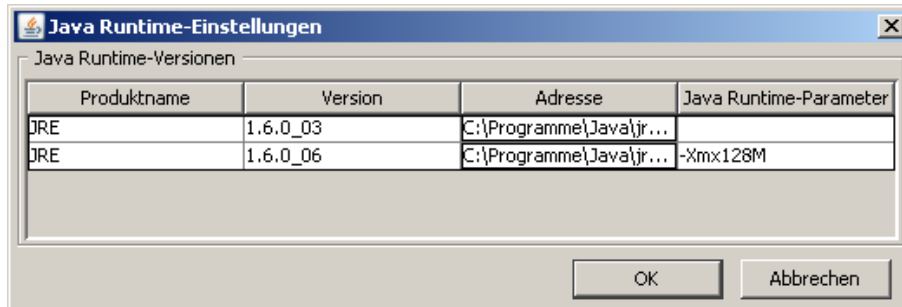

Fig. 6: Java runtime settings
- In order to get more working memory for JAVA under Windows, enter the following parameter: -Xmx128M (Figure 6).